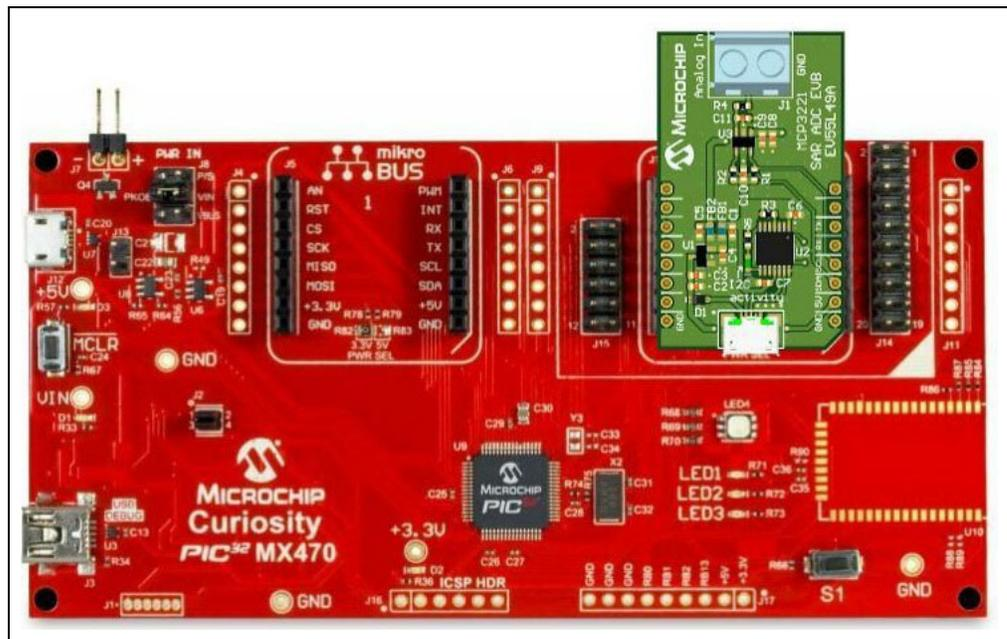

FIGURE 4-1: Hardware Connection of the MCP3221 SAR ADC Evaluation Board into the PIC32MX470 Curiosity Development Board.
Building the project requires the following packs and software versions, as shown in Figure 4-1:
1. Attach the MCP3221 SAR ADC Evaluation Board in the J10 mikroBUS socket from the PIC32MX470 Curiosity Development Board, as shown in Figure 4-1.